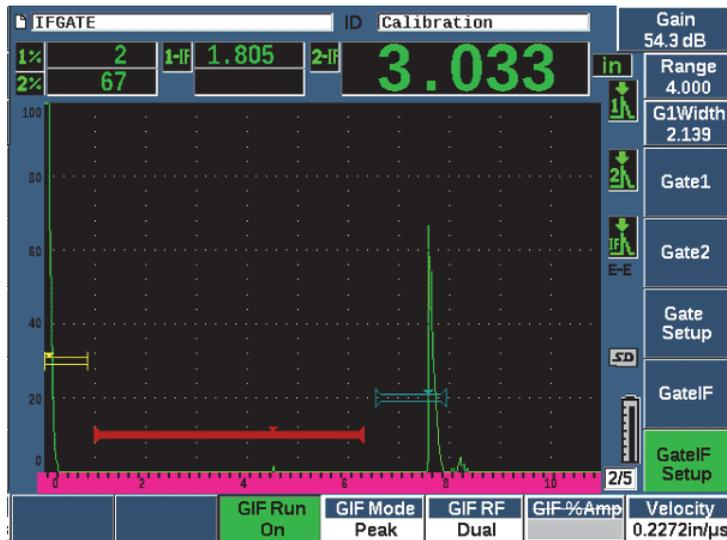

Figure 11-34 Setting the gate interface run mode
3. Use the adjustment knob or arrow keys to set the parameter to **On** (see Figure 11-34 on page 273).